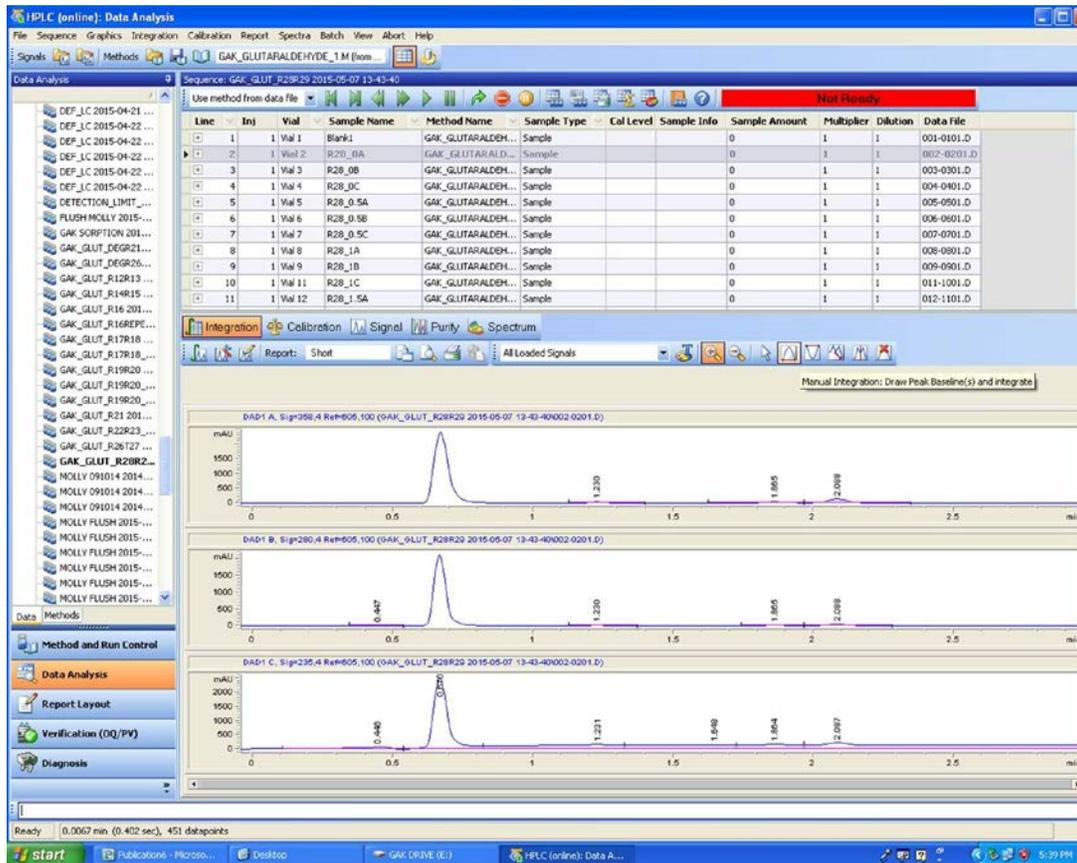

Figure 9. The data analysis screen in chemstation.
- To integrate your peaks, select the “integration” button (shown in Figure 9). Select the desired signal you wish to monitor from the drop-down menu as described before. Automatic integration results may now be read or, if desired, manual integration may be performed by clicking the “Manual Integration” button (highlighted in Figure 9) and then drawing your own baseline under the peak(s) of interest.